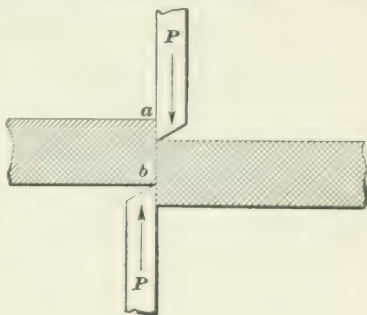

FIG. 6.
48. The shearing strength of any material is the resistance offered by its fibers to being cut in two. Thus, the pressure of the cutting edges of an ordinary shearing machine, Fig. 6, causes a shearing stress in the plane ab . The unit shearing force may be found by dividing the force P by the area of the plane ab .